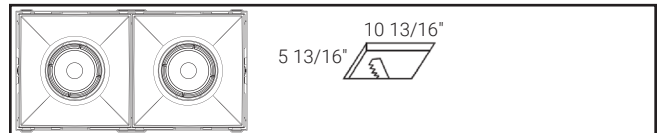

Figure 6.
- 2 Light Engine: 10 13/16" X 5 13/16" (Figure 6)